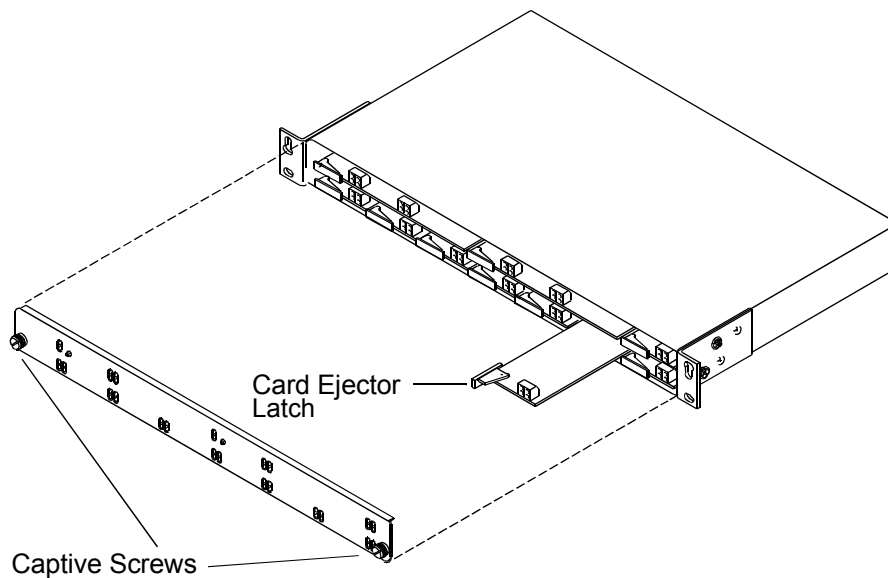

Figure 10-3 Replacing a Standard Low-Speed Card
1. Use a Phillips head screwdriver to loosen the two fastening screws on the front faceplate of the Wide Bank and remove the faceplate. See Figure 10-3.